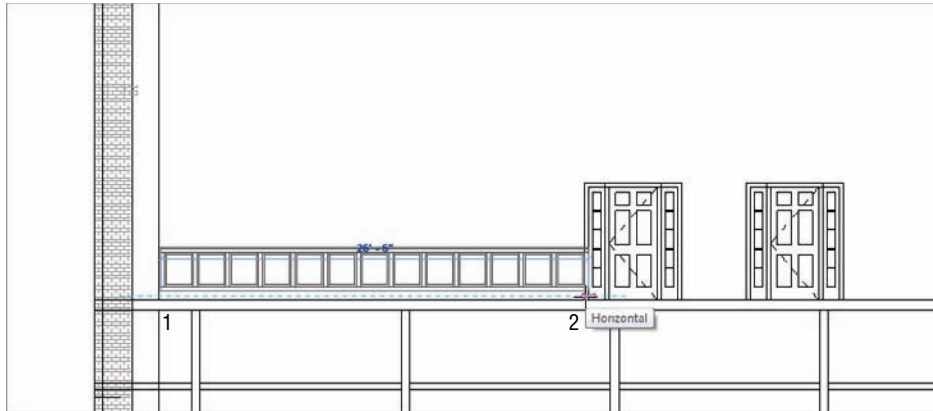

FIGURE 10.79 Adding the line-based, raised-panel family
18. Pick the base point, labeled 1 in Figure 10.79.
19. Pick the second point, labeled 2 in Figure 10.79.
NOTE If you just can't seem to pick the points specified in Figure 10.79, go ahead and pick two points close to the area indicated in the figure. After you place the line-based family, you can select it and grip-edit the ends to extend to the wall's edges, as shown in the figure.